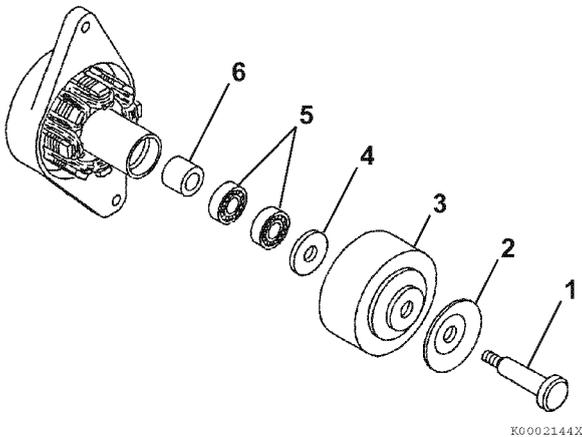

Figure 12-27
3. Remove the through bolt (1, **Figure 12-27**), pulley half (2, **Figure 12-27**), flywheel (3, **Figure 12-27**), flat washer (4, **Figure 12-27**), bearings (5, **Figure 12-27**), and spacer (6, **Figure 12-27**).